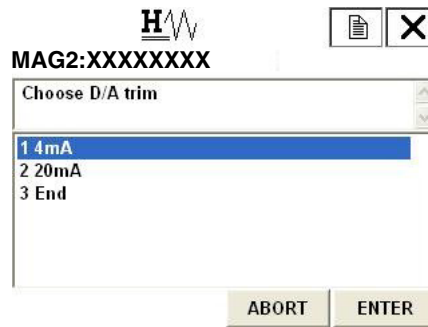

Figure 102.
- 2. Once the display as shown in Figure 102 appears, move the arrow key up or down to select a current output to adjust, and then press F4 (ENTER). This time, select 4 mA.